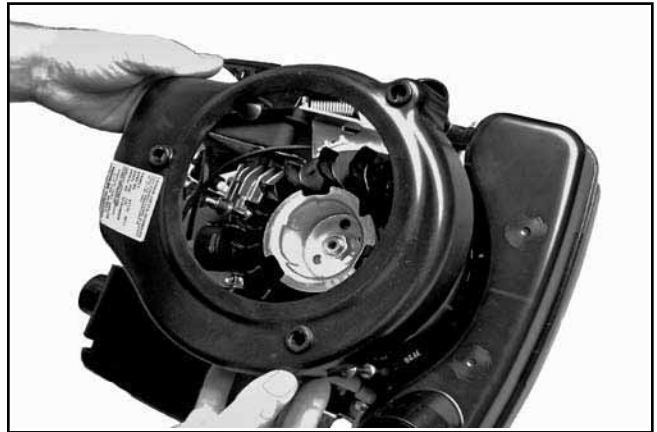

Figure 8-6. Removing Blower Housing.
1. Lift off the blower housing and retain the three stud spacers. See Figure 8-6.